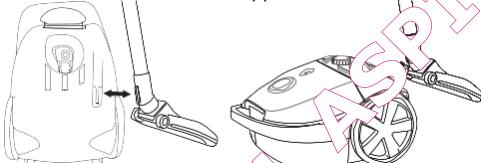

Figure 10 Storing the vacuum cleaner
3. Stand the vacuum cleaner upright. An attachment for the accessory bracket is fitted to the back of the vacuum cleaner next to the front castor (see Figure 10). Slide the bottom of the accessory bracket into the slot. This avoids the need to dismantle the vacuum cleaner after use; you can store the assembled appliance and retrieve it again quickly when you need it.